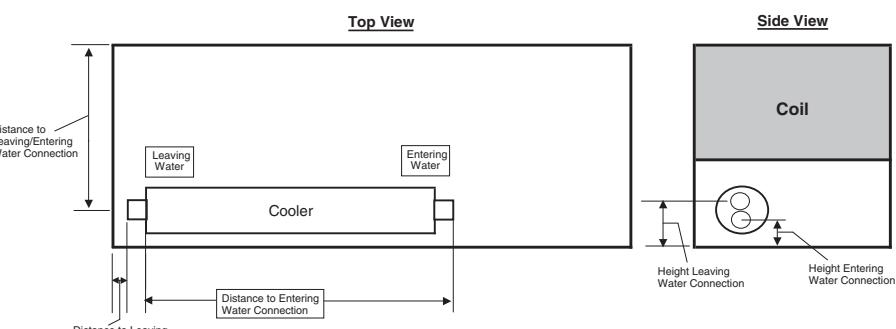

Fig. 20 — Flooded Cooler Option Dimensions
GENERAL — See Fig. 18 and 19 for typical piping and wiring. The Victaulic connections allow clamp-on connection of water lines to the coolers in all 30XA units. See Table 7 for 30XA unit operating range. See Fig. 20 for cooler option dimensions. A flow sensor is factory-installed in the side of the entering fluid nozzle for flooded cooler units and is located in the leaving fluid nozzle for direct expansion (DX) cooler units. See Fig. 21.